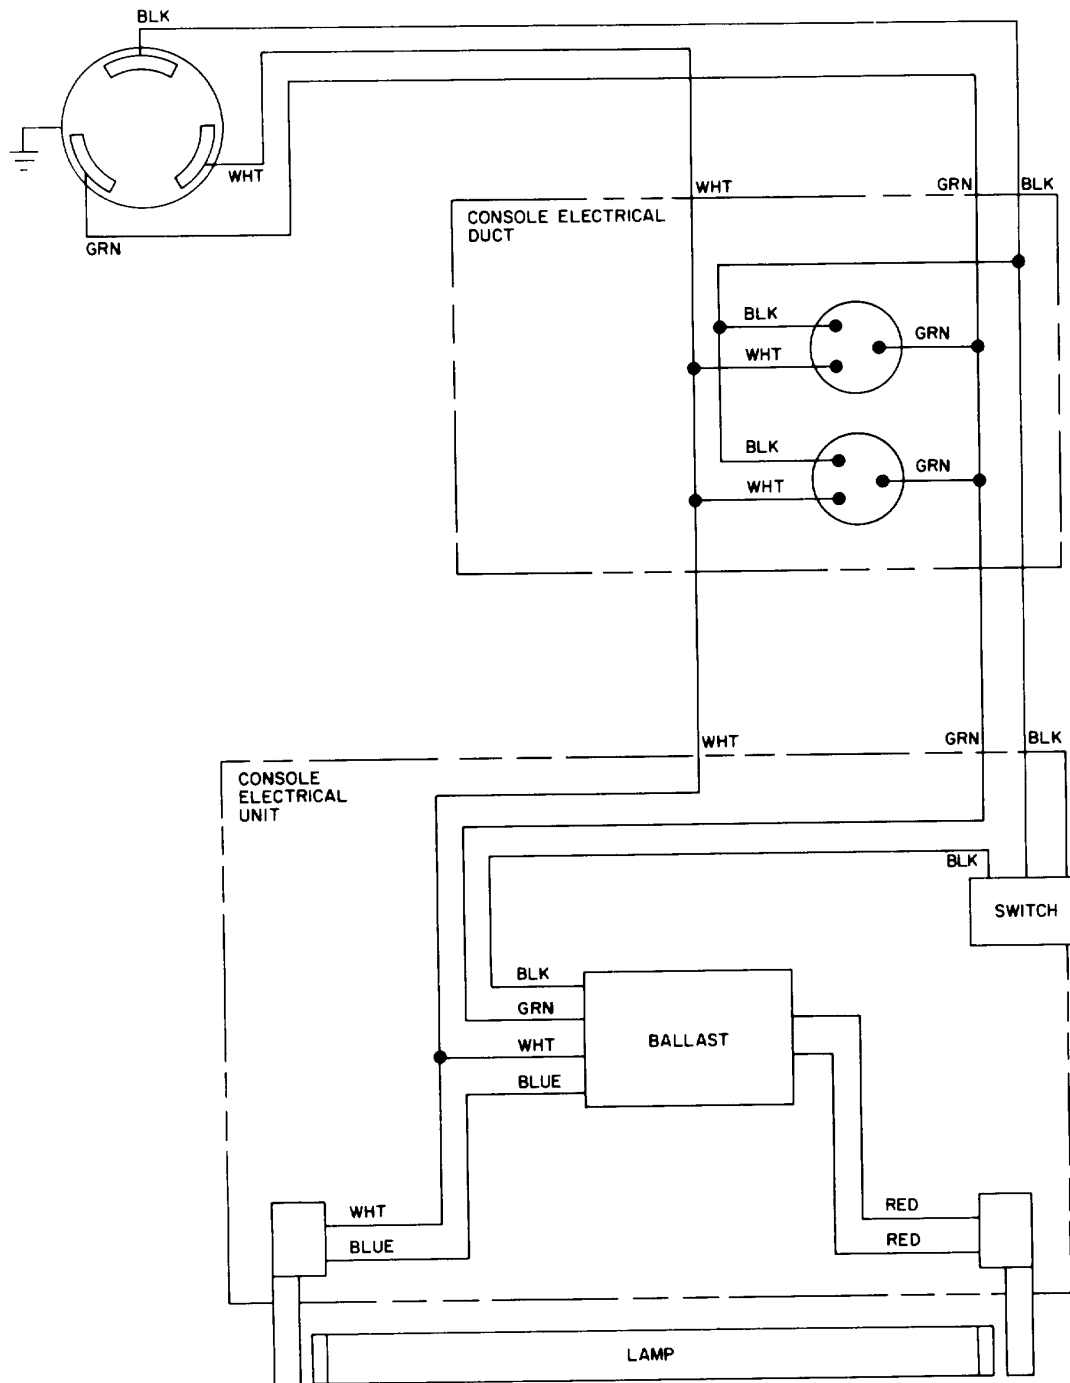

Figure 6-2. Work Console Electrical Circuits, Schematic Wiring Diagram
**6-3 WORK CONSOLE ELECTRICAL CIRCUIT.** This circuit consists of a power cord, console electrical duct with two convenience receptacles, and a console light unit. The work console power cord plugs into a shelter receptacle providing power to the convenience receptacles and console light unit. Operation of the light is controlled by an ON/OFF toggle switch mounted on the light unit (figure 6-2).